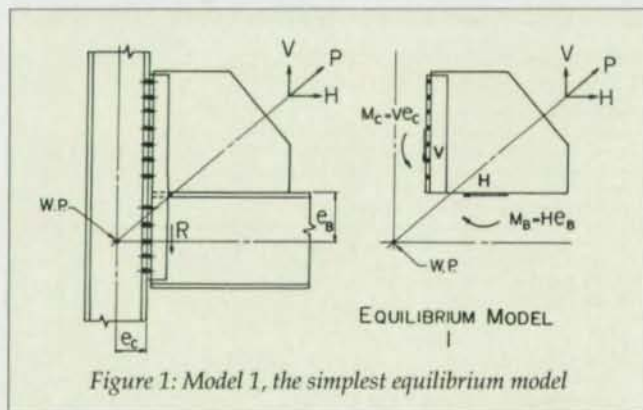

Figure 1: Model 1, the simplest equilibrium model
• **Model 1.** This is the most common and simplest of all equilibrium models. The force distribution on the gusset, beam, and column are shown in Figure 1. As with all equilibrium models, this model guarantees that the gusset, beam, and column are in equilibrium under the brace load P . If the work point coincides